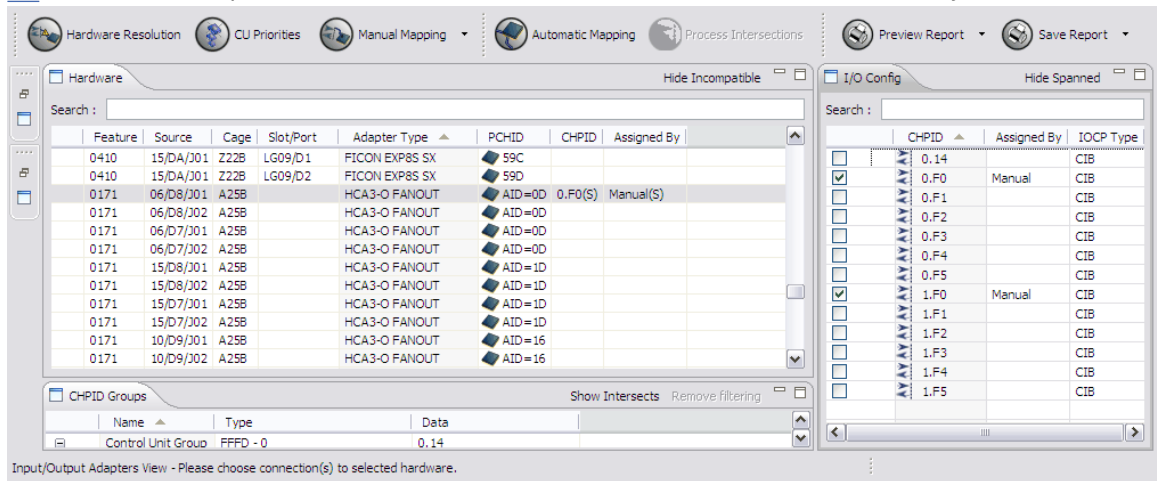

Figure 121. Multiple check marks for a spanned CHPID after selection of a single check box
- i) There may be cases in which you select a single check box but the tool automatically selects additional check boxes. This occurs because the CHPID you selected is spanned, as is its associated CSS. Any additional CHPIDs are assigned to the same PCHID. Figure 121 on page 95 shows an example in which the user selected 0.F0 and the tool automatically selected 1.F0.